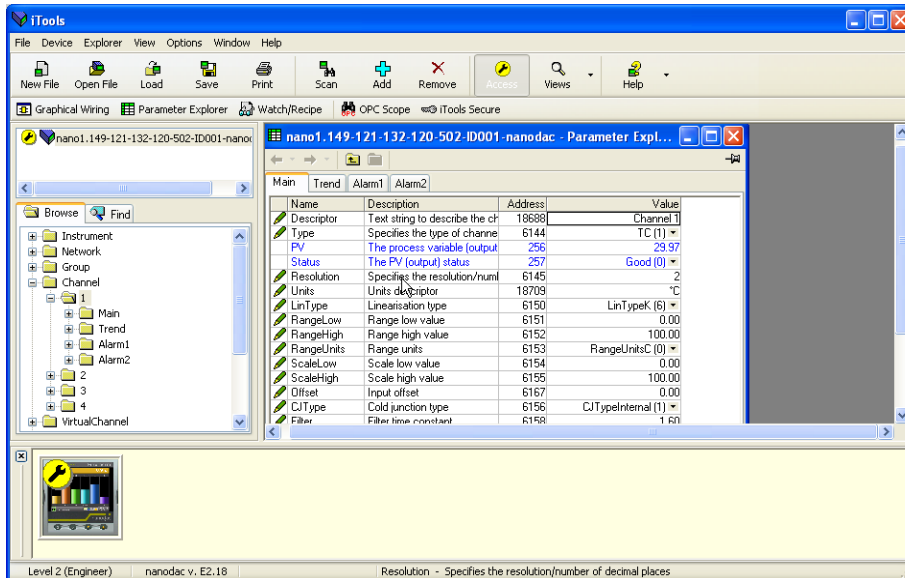
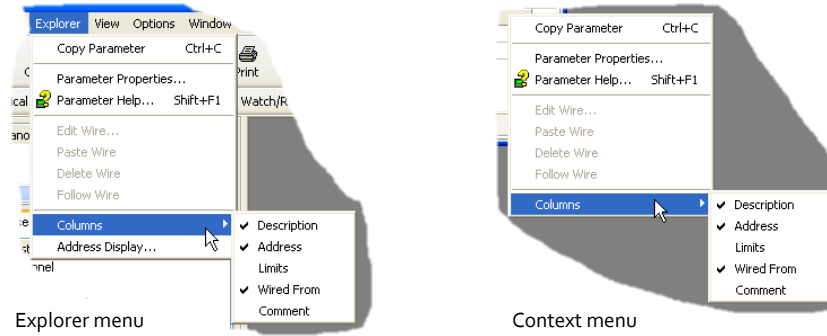

Figure 3.4a Parameter table example
Figure 3.4b Column enable/disable
In each case the function block parameters appear in the iTools window in tabular form, such as the example in figure 3.4a, below.
The figure above shows the default table layout. Columns can be added/deleted from the view using the 'Columns' item of the Explorer or context menus (figure 3.4b).
- Columns. The default explorer window (figure 3.4a) contains the columns 'Name', 'Description', 'Address', 'Value', and 'Wired From'. As can be seen from figure 3.4b, the columns to be displayed can be selected, to a certain extent, using either the 'Explorer' menu or the context menu.